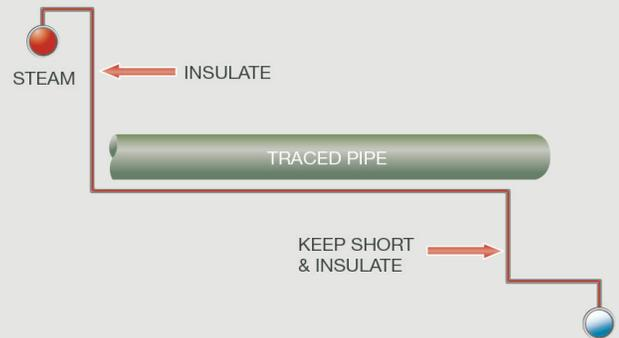

Figure 15: Error: Wrapping Tracer Around Process Pipe
- b.** Do not wrap the tracer around the process pipe. *Figure 15* shows this common error. Condensate can and will build up in the low spots until it fills the tube, which will result in poor heating and possibly water hammer.